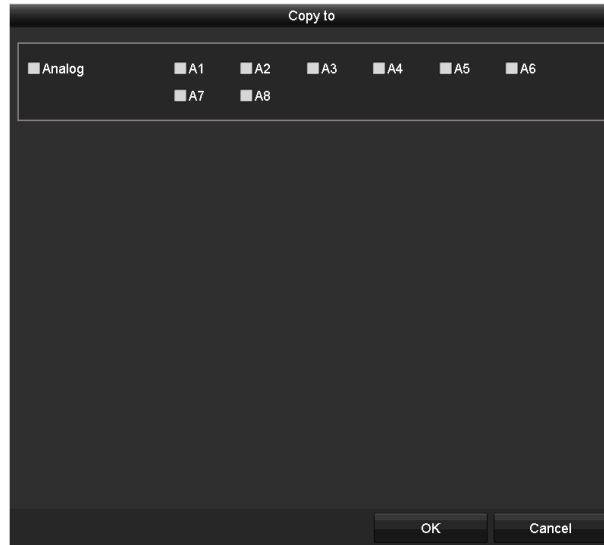

Figure 13-2 Copy Settings to Other Cameras
- 1) If you want to copy the OSD settings of the current camera to other cameras, click the **Copy** button to enter the **Copy Camera** interface, as shown in Figure 13-2.